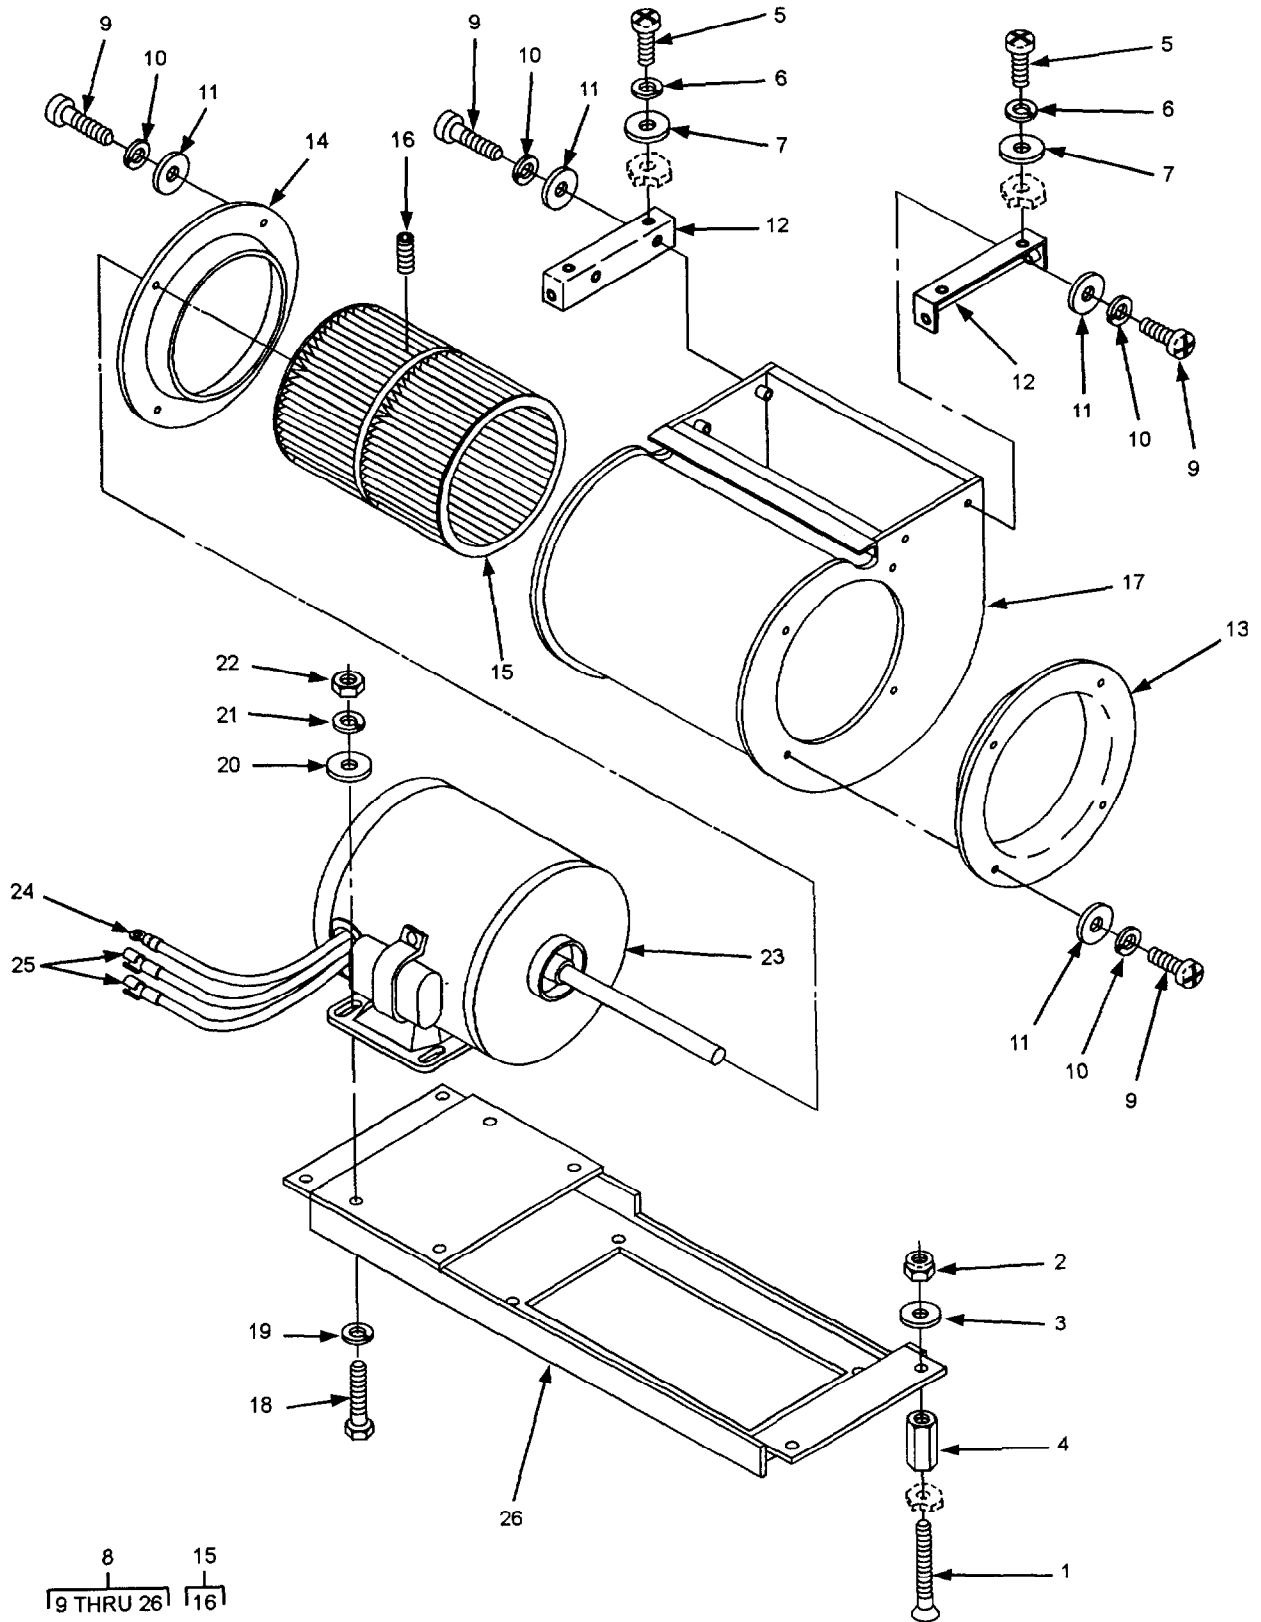

Figure 2. Exploded View
3. Remove four screws, lockwashers and flat washers (5, 6 and 7). Refer to figure 2 exploded view.
4. Remove four screws (1) and four washers (3), four nuts (2) and four mounts (4) securing the fan and motor base to the unit.
5. Lift out fan and motor assembly (8).